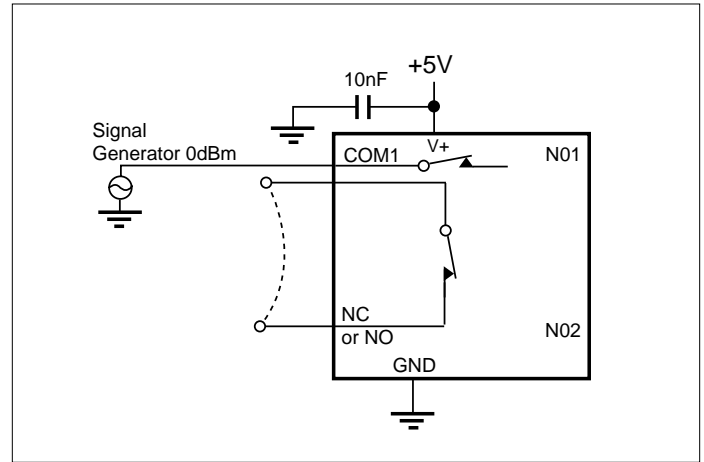

Figure 4. Crosstalk
- Between any two switches. See figure 4.